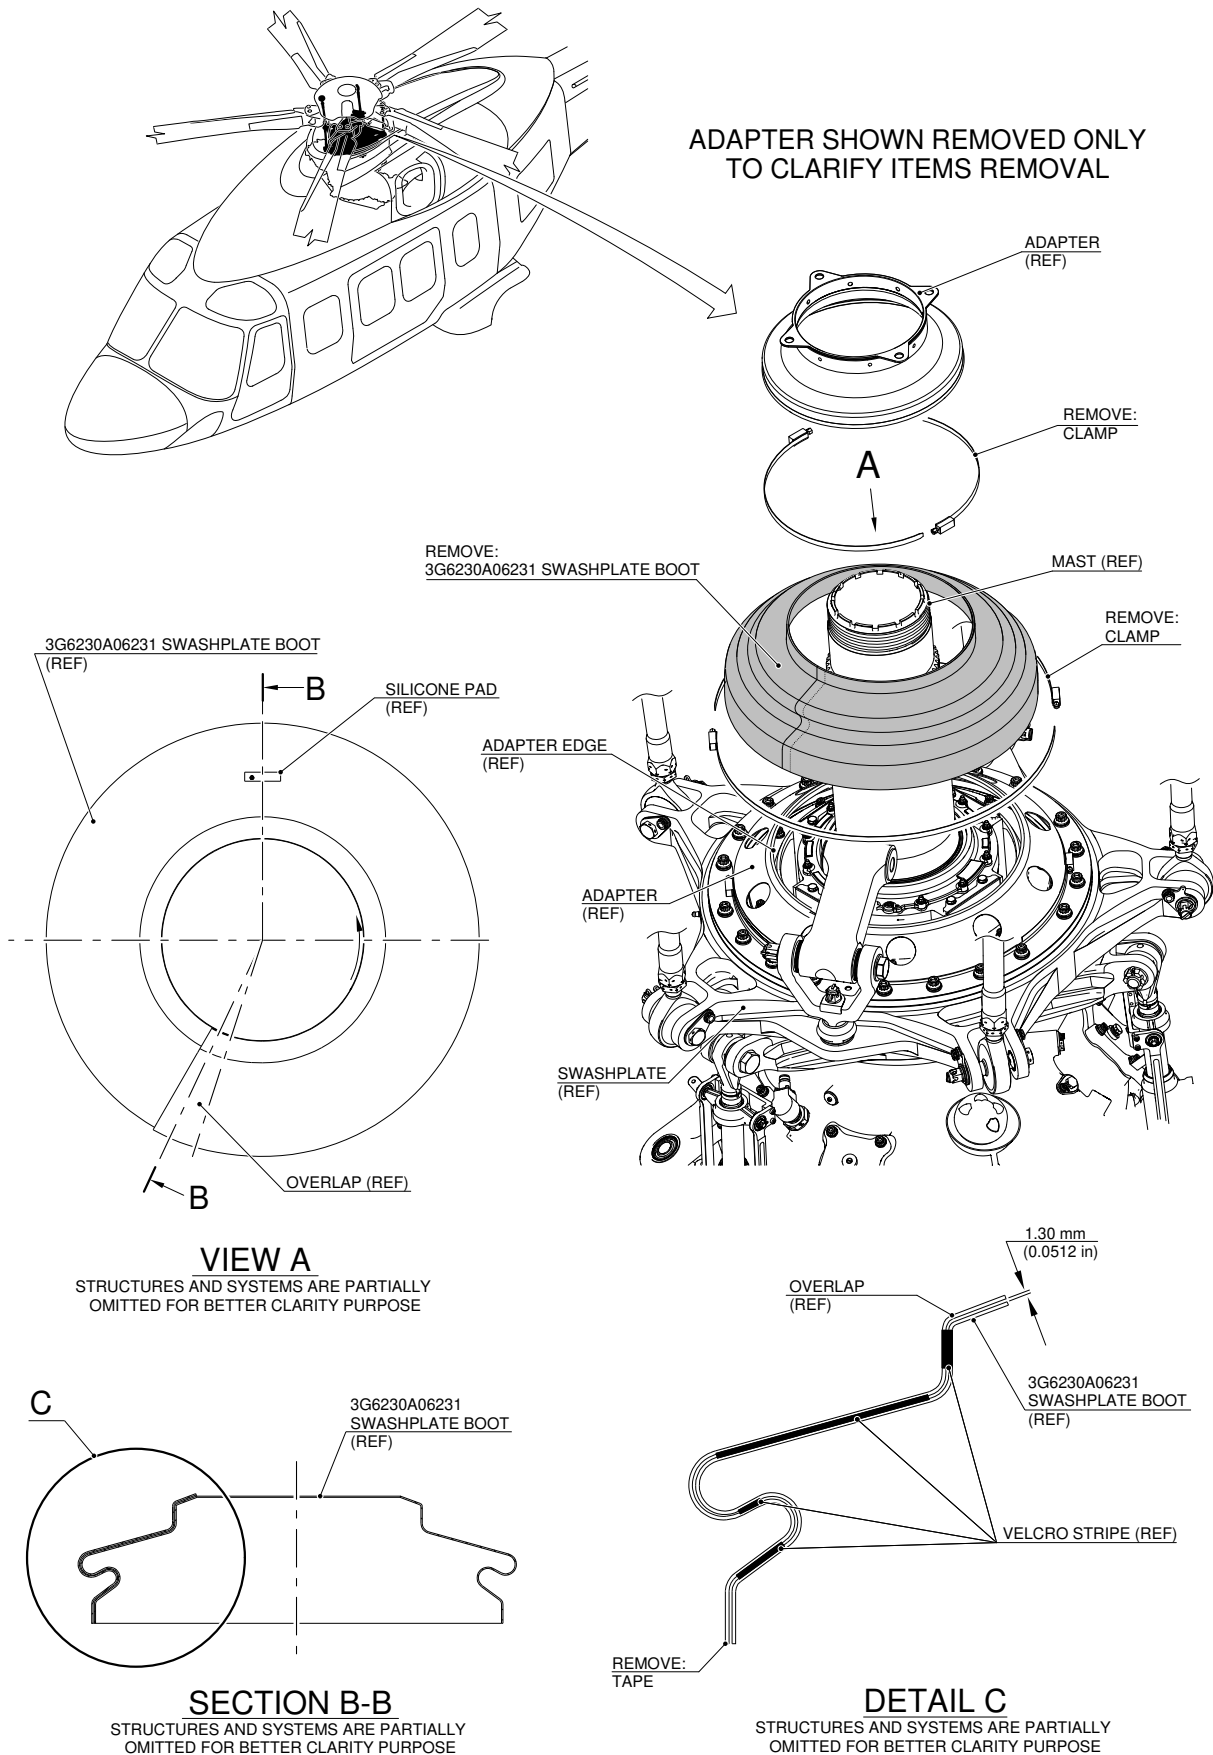

Figure 1
- The MR boot P/N can be found on a raised silicone pad as shown in Figure 1 View A.
2. In accordance with AMP DM 89-A-06-41-00-00A-010A-A and with reference to Figure 1, get access to the MR swashplate boot area. Take a picture of the MR boot splitted installation with P/N in view to add to MMIR. Remove the boot P/N 3G6230A06231 in accordance with the following procedure:
- 2.1 In accordance with applicable steps of AMP DM 89-A-62-31-03-00A-520A-A and with reference to Figure 1, cut and remove the safety wire from the upper clamp. Discard the wire. Remove the clamp that attaches the swashplate boot to the adapter assy P/N 4F6230A03131.
- 2.3 With reference to Figure 1, cut and remove the safety wire from the lower clamp. Discard the wire. Remove the clamp that attaches the swashplate boot swashplate.
- 2.4 With reference to Figure 1 Detail C, remove the tape and lift the overlap from the swashplate boot. Use a plastic scraper to get an aid to remove the adhesive from the overlap also in the area of the velcro stripes. Lift the overlap until the velcro stripes disconnect.
- 2.5 With reference to Figure 1, carefully remove the swashplate boot P/N 3G6230A06231 from the swashplate. Use a plastic scraper to help you remove the sealant that bonds the swashplate boot to the adapter. Discard the swashplate boot P/N 3G6230A06231.